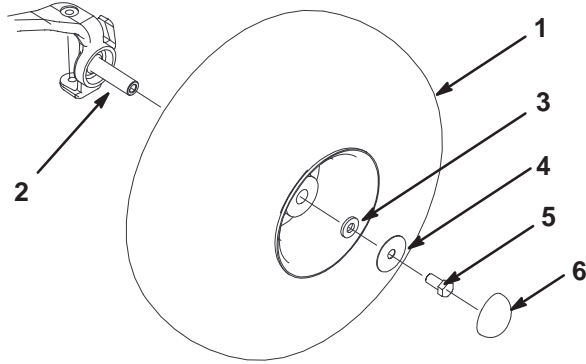

Figure 3
4. Mount the wheels with the previously removed fasteners (Fig. 3) and torque the bolts to 135–165 ft.-lb. (183–224 N·m)